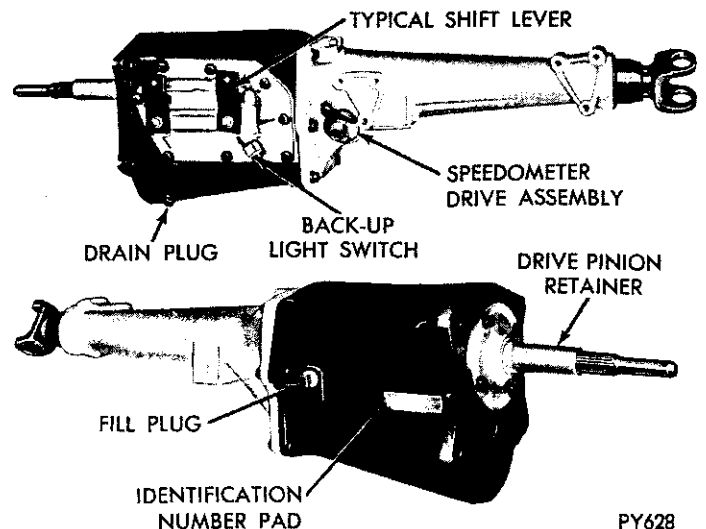
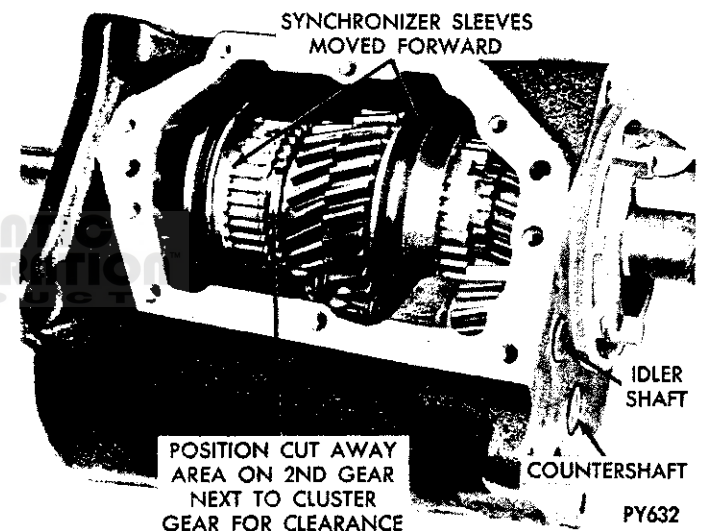

Fig. 2—A-230 Transmission—Left and Right Sides
Fig. 6—Position 2nd Gear and Shift Sleeves for Clearance
A pad has been provided on the right side of the transmission (Fig. 2) for identification numbers.
(4) Rotate cut away part of second gear next to countershaft gear for mainshaft removal clearance (Fig. 6).
- (5) Also shift 2nd-3rd synchronizer sleeve forward for the same reason.
(6) Remove bolt and retainer securing speedometer pinion adapter in extension housing (Fig. 2). Carefully work adapter and pinion out of extension housing.